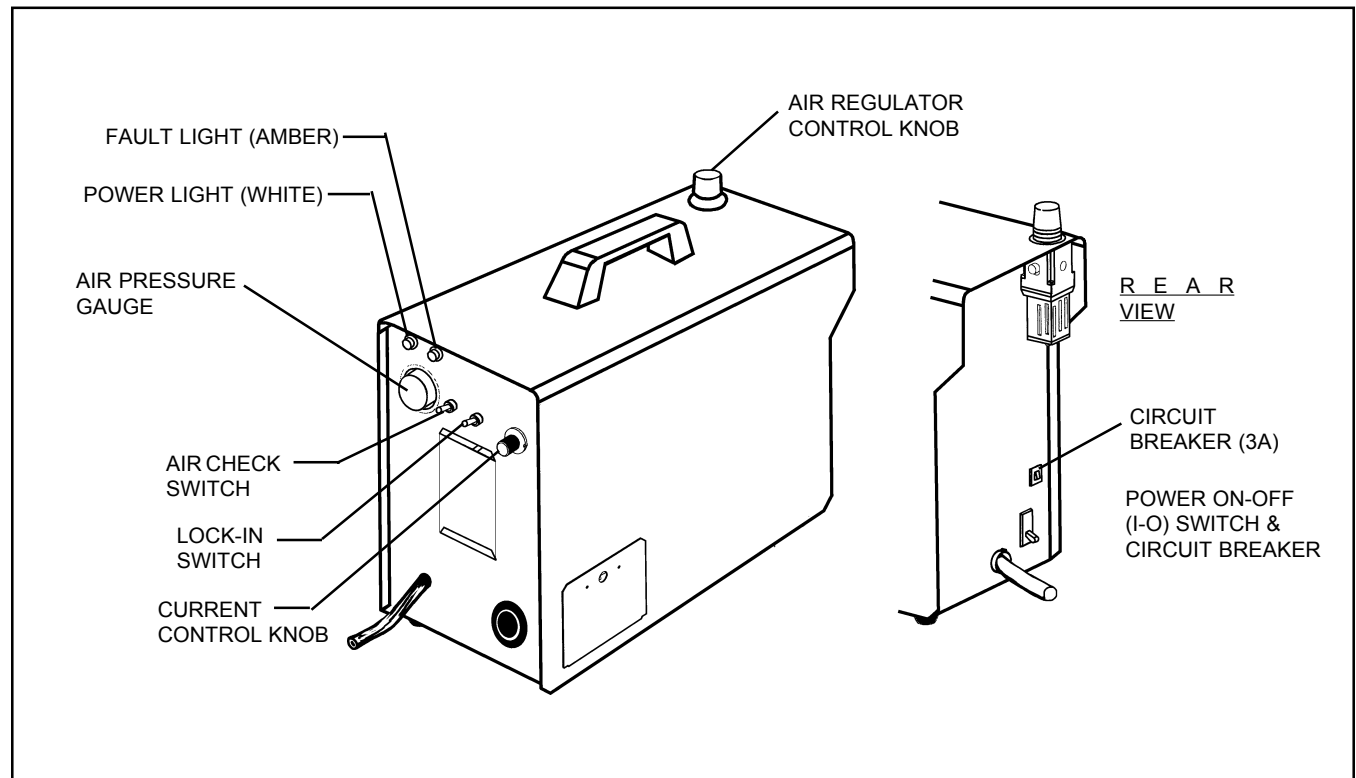

Figure 3-1. PCM-500i Controls
3.2 PCM-500i CONTROLS (FIGURE 3-1)